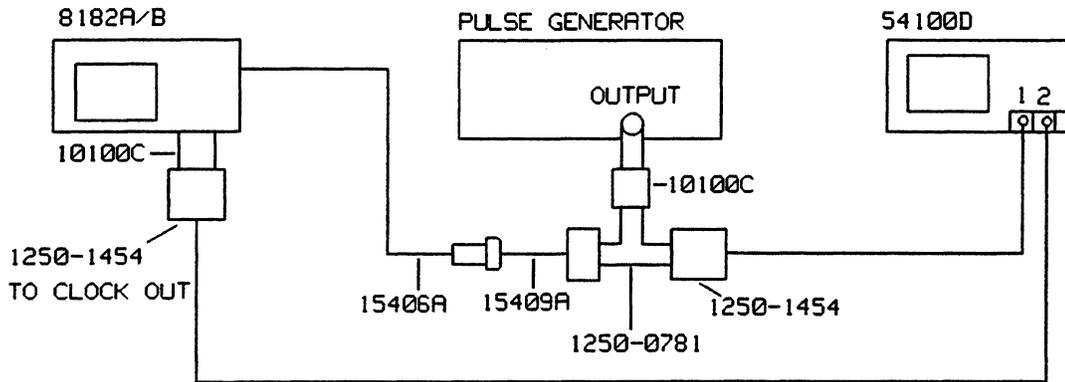

Figure 12-6. Test Setup for the Clock Threshold Hysteresis Test
6. Connect the equipment as shown in Figure 12-6.